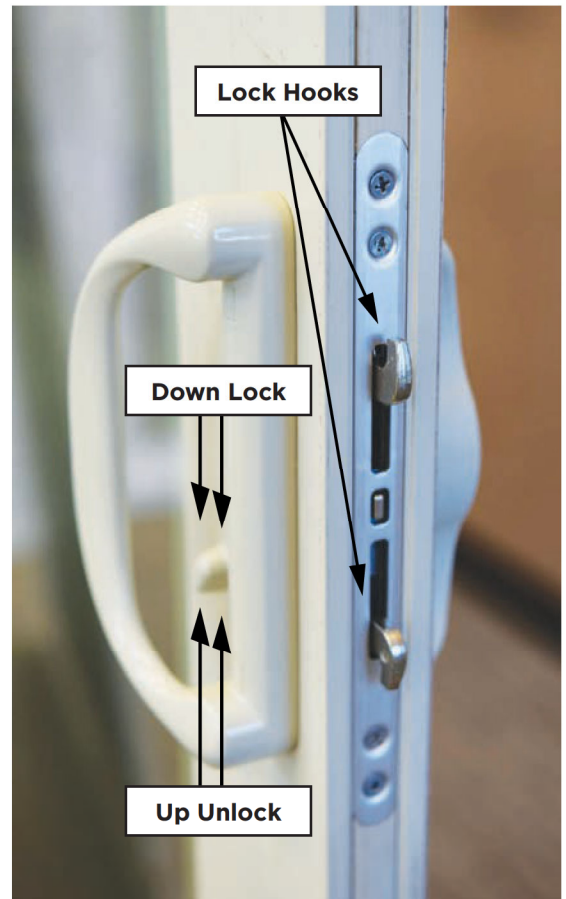

Figure 13
1. To operate the interior locking mechanism of the patio door, place the locking lever behind the interior handle pull in the up position to unlock (figure 13).